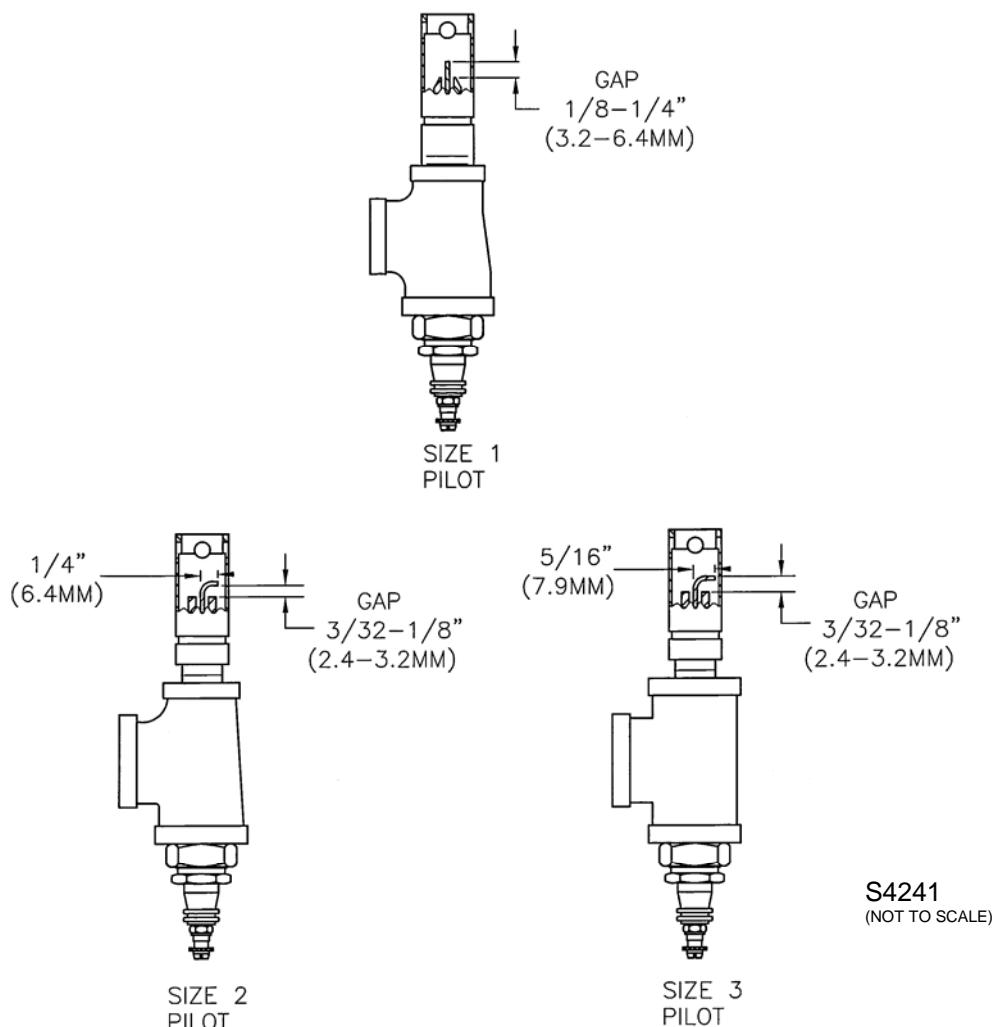

Figure 5. Spark Gap Setting and Electrode Positioning
1. Be sure the spark plug is set as shown in Figure 5. Ideally, initial pilot set-up should be done with the pilot outside of the burner.
Periodically remove and inspect the spark plug. If the ceramic insulator is cracked or broken, replace it. Clean the unit of any carbon buildup. **When replacing the plug, avoid overtightening the nut holding the plug to avoid cracking the plug's ceramic insulator.** Before use, ensure the plug's wire electrode is centered in the pilot nozzle (see Figure 5 for setting spark plug).